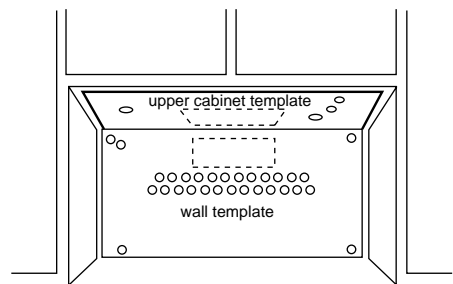

Figure 22
4. Securely tape or tack the wall template to the wall. See Figure 22.
5. Measure the bottom of the upper cabinet frame. Trim the edges **A**, **B**, and **C** on the upper cabinet template so that the template will fit on the bottom of the upper cabinet. If upper cabinet has a recessed frame, trim the template so it fits inside the recessed area. Align the centerline of the upper cabinet template with the centerline of the wall template, then securely tape or tack the upper cabinet template in place. See Figure 22.